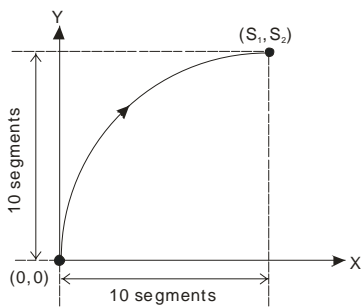
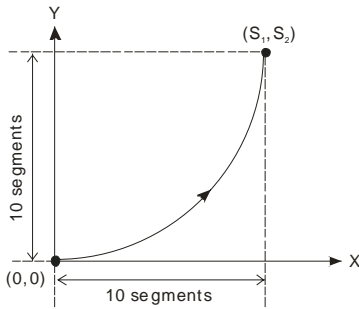

Figure 1
Figure 3
- The lower 16 bits of **S** (settings of direction and resolution): K0 refers to clockwise 10-segment (average resolution) output; K2 refers to clockwise 20-segment (higher resolution) output and a 90° arc can be drawn (see figure 1 and 2). K1 refers to counterclockwise 10-segment (average resolution) output; K3 refers to counterclockwise 20-segment (higher resolution) output and a 90° arc can be drawn (see figure 3 and 4).